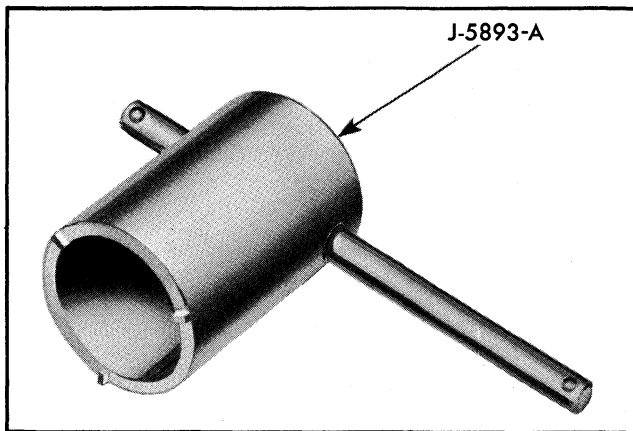

Fig. 11-64 Ignition Switch Ferrule Spanner
2. Remove ignition switch ferrule by unscrewing with special spanner J-5893-A (Fig. 11-64).